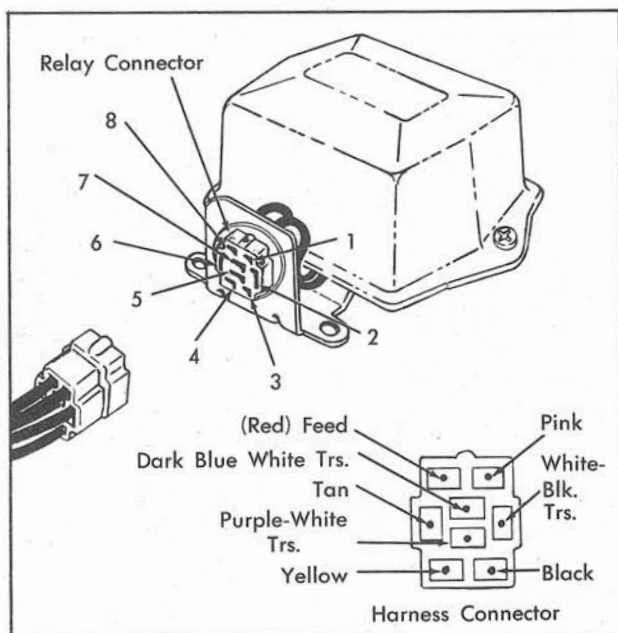

Fig. 17-81 Door Relay Box
2. Connect one end of a #12 gauge jumper wire to the relay box #1 terminal and the other end to the power source, Fig. 17-81.